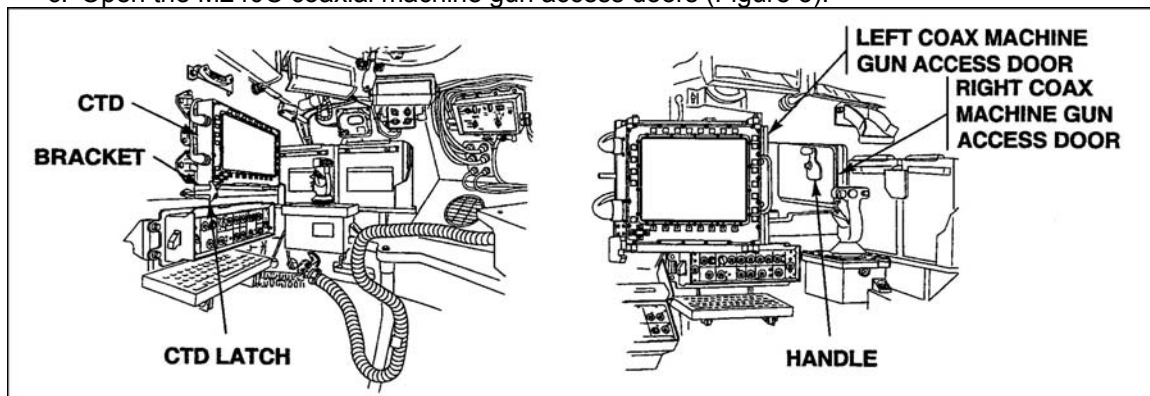

Figure 3. Coaxial machine gun access doors.
- c. Open the M240C coaxial machine gun access doors (Figure 3).